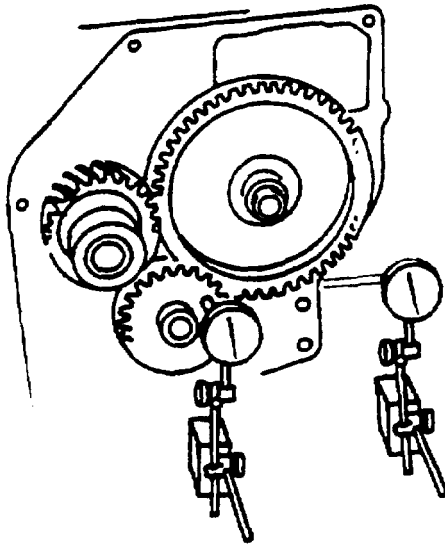

FIGURE 3-35. Measuring Gear Backlash
- e. Measure timing gear backlash as follows. Refer to FIGURE 3-35:
- (1) Set a dial indicator on timing gear to be measured.
- (2) Hold gear to be checked and adjoining gear stationary.
- (3) Move gear tooth side to side in backlash. Record indicated backlash Total Indicator Reading (TIR). Standard TIR is 0.004 - 0.007 in. (0.10 to 0.17 mm) with a limit of 0.012 in. (0.30 mm).
- (4) If TIR exceeds limit, replace gear.